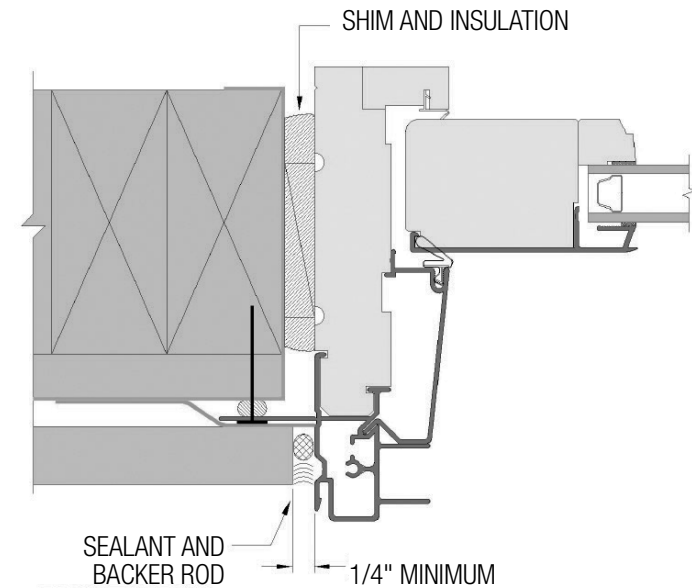

FIG. 24: SIDE JAMB
- A) After siding or wall exterior is complete, apply backer rod and sealant between the door frame and siding material on both sides. (Fig. 24, 25 & 26)